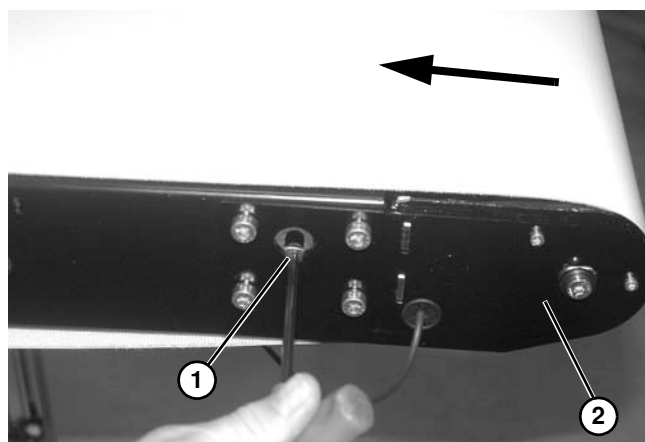

Figure 70
7. Loosen the tracking cam (**Figure 70, item 1**) on each side of conveyor to move the drive head plate assembly (**Figure 70, item 2**) inward.